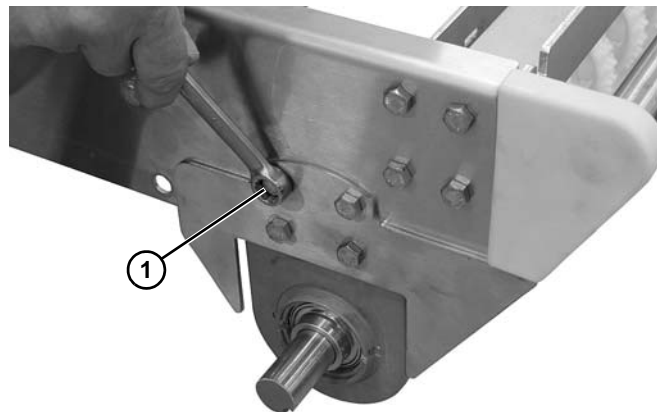

Figure 58
6. Remove the four headplate screws (Figure 58, item 1).